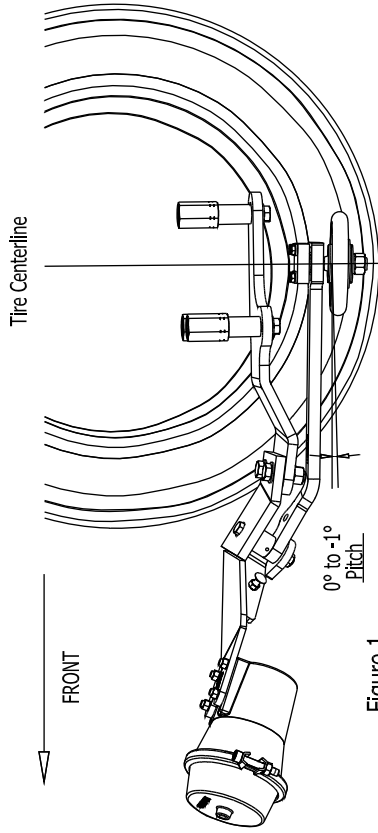

Figure 1
- a. Chainwheel should contact the tire at the **VERTICAL CENTERLINE of the tire.** (ref Figure 1)
- b. The **PITCH** of the chainwheel should be **0** to **-1** degree (ref Figure 1)